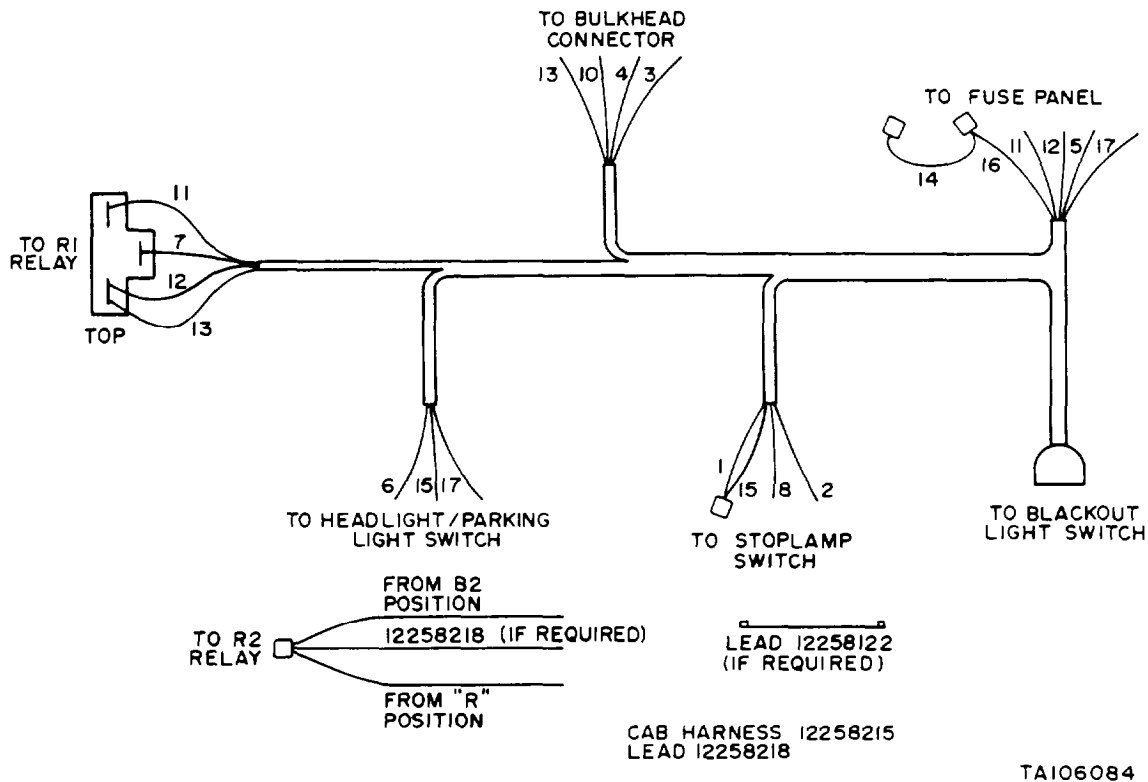

Figure 25-2. Blackout Lighting Kit Cab Harness.
switch area, and then route remaining wires to the left side of vehicle through instrument panel following route of production harness (figure 25-2).
(28) If the vehicle is an ambulance, connect the wire removed in step (17) from the B1 contact to the male terminal of wire 17 in harness 12258215 (figure 25-2) and tape connection securely.
(23) Reinstall headlight/parking light switch by performing the steps described in steps (7) and (8) in reverse order.
(24) Remove the black, molded connector with the heavy wire from the vehicle fuse panel buss.
(25) Connect this connector disconnected in step (24) to housing 12258177 which retains wire 5 of harness 12258215 (figure 25-2). Attach wire 16 of harness to the buss terminal from which the black molded connector was removed.